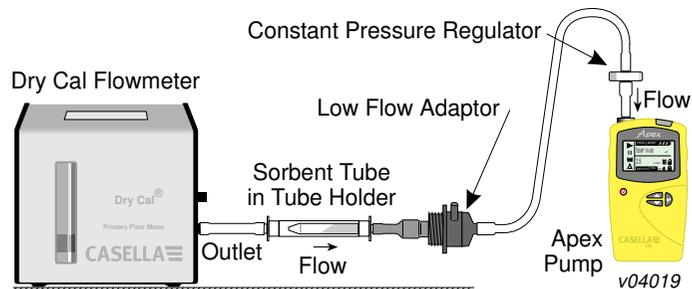

Figure 9: Arrangement using low flow adaptor
- Starting from the Apex inlet, connect the following: constant pressure regulator, low flow adaptor, sorbent tube holder and a low flow flowmeter such as the Dry Flow or Dry Cal shown in Figure 9.